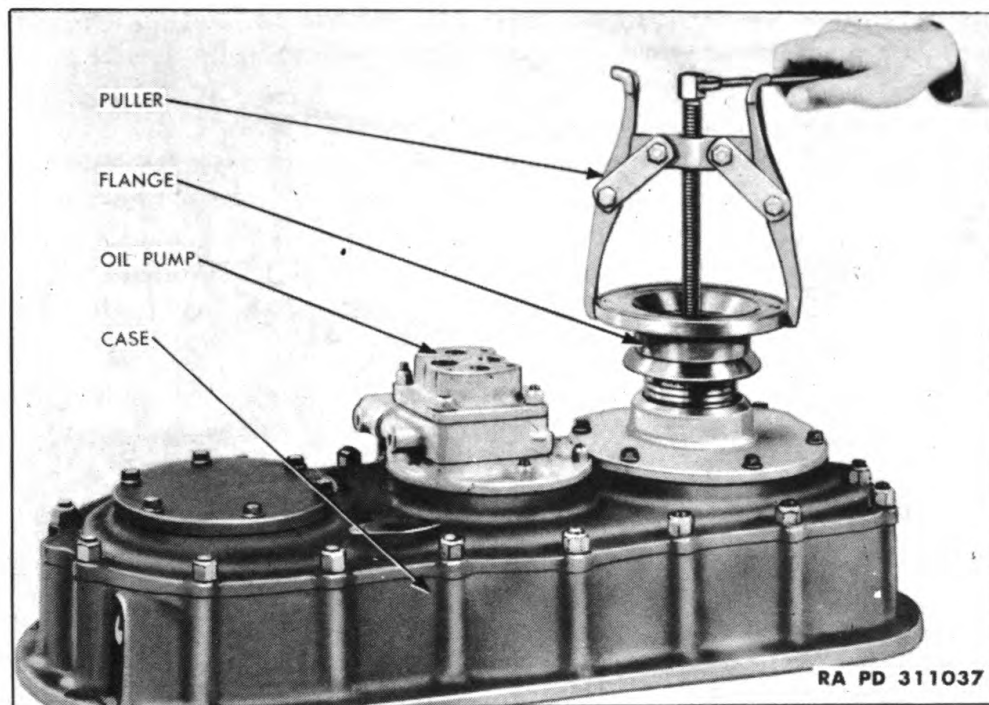

Figure 23 — Removing Transfer Case Flange, Using Puller 41-P-2911
(1) **REMOVE FLANGE.** Remove driving flange retaining nut. Pull flange with puller (41-P-2911), being careful not to damage thrower behind flange (fig. 23). Pull bearing cage from cover, using two cap screws in tapped holes in bearing cage flange.